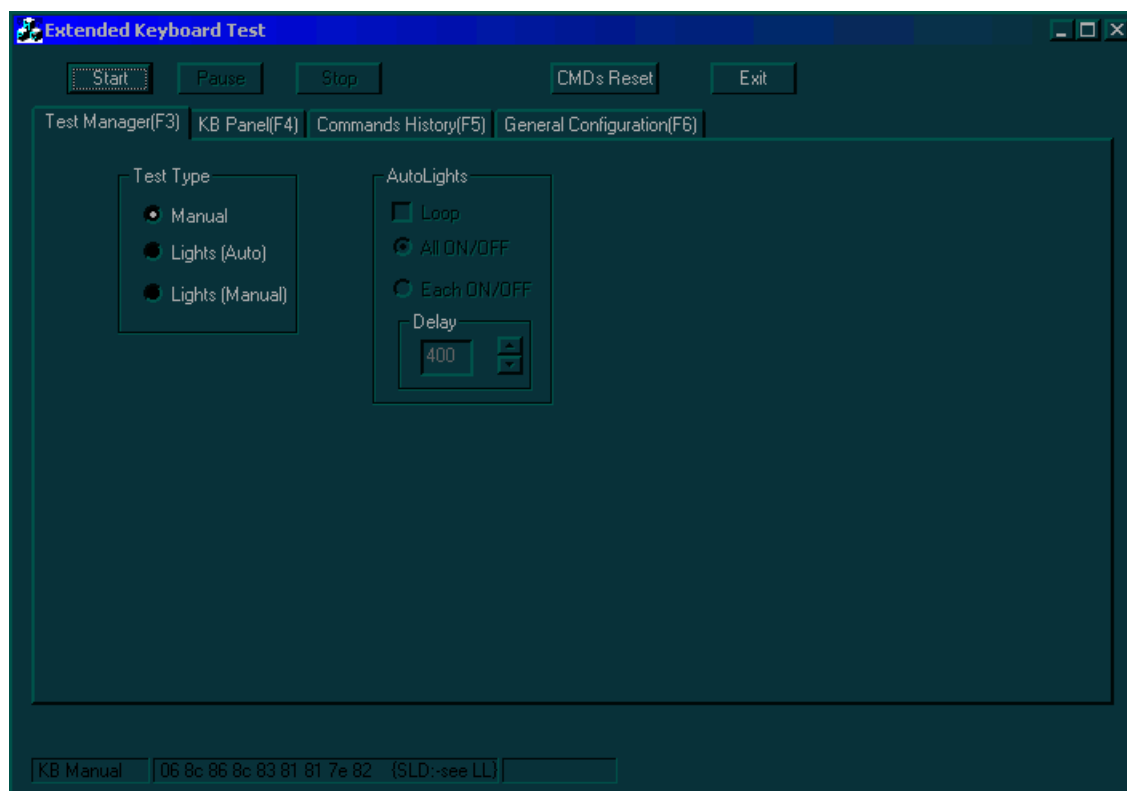

Figure 7-49 Test Manager Tab - Extended Keyboard Test Window
- 2) Trackball to the **External Keyboard** button and press **Select**. The *Extended Keyboard Test* window is displayed, as shown in Figure 7-49 "Test Manager Tab - Extended Keyboard Test Window" on page 7-76.